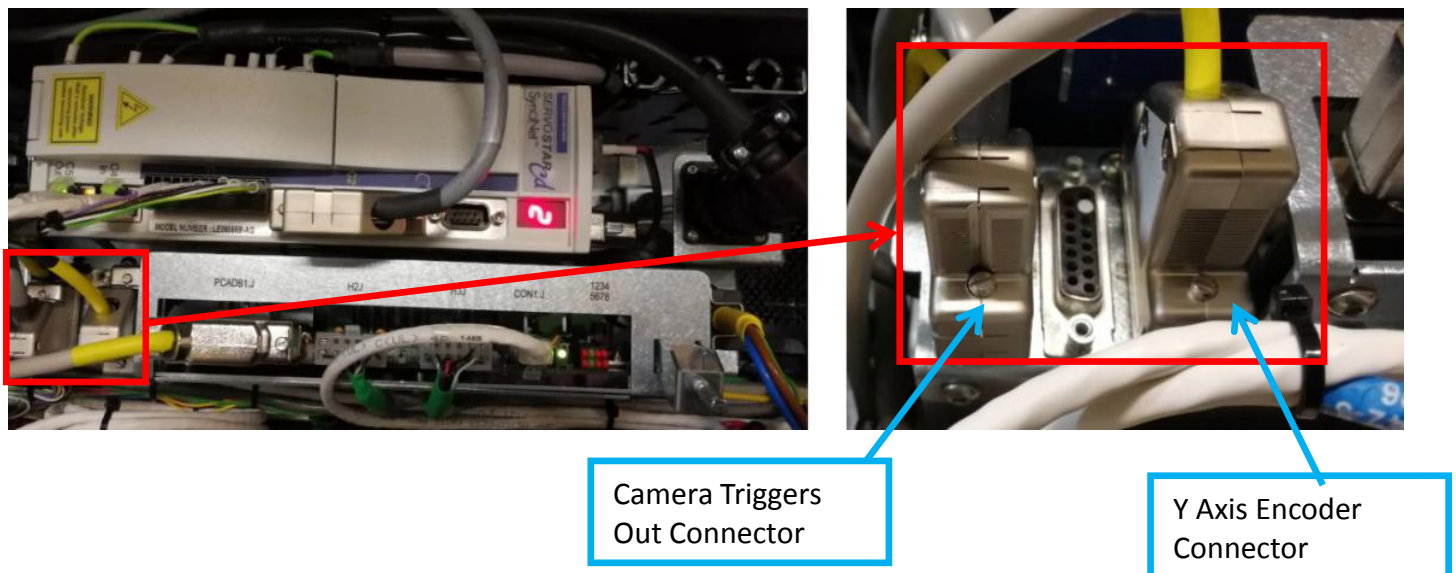

Figure 27
32. Connect Y axis encoder & Camera Triggers Out Connector at 07J & 05J as Figure 27